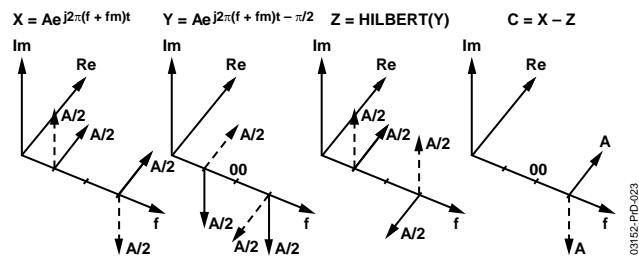

Figure 71. Negative Frequency Image Rejection
Referring to Figure 71, by performing a second complex modulation with a modulating signal having a fixed  $\pi/2$  phase difference, Figure (Y), relative to the original complex modulation signal, Figure (X), taking the Hilbert transform of the new resulting complex modulation, and subtracting it from